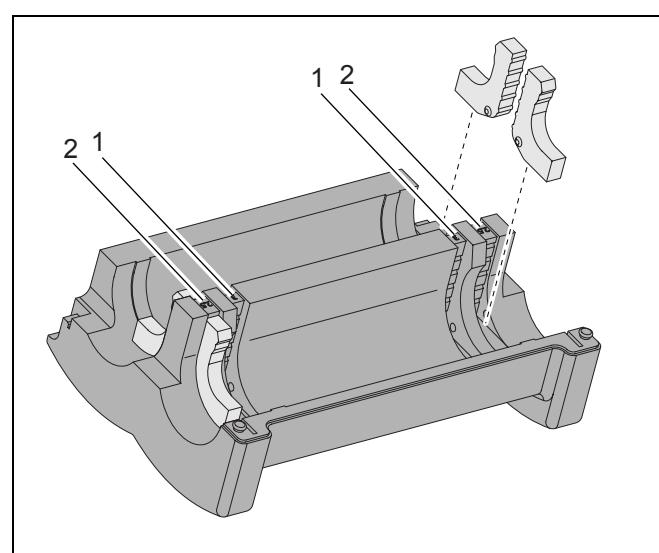

Fig. 10 Inner insulation
- For 2½" and 3" low loss header: install the inserts in the outer insulation. For a 2½" low loss header: install the reducing inserts in the outer recesses (fig. 10, item 2).
For a 3" low loss header: install the reducing inserts in the inner grooves (fig. 10, item 1).